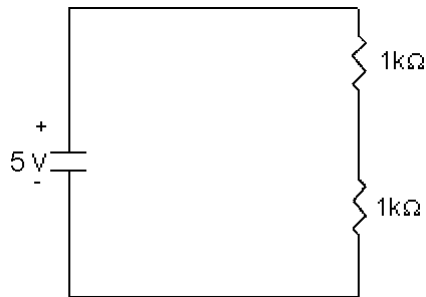

Figure 3. Series resistor circuit.
7. Assemble the circuit shown in Figure 3. **Q6:** What values do you expect for voltages across each of the two resistors and across the series combination of the two resistors? Measure these three values using the DMM. Do your results make sense? Now disconnect the two resistors from each other, leaving everything else connected (an open circuit). Measure the voltage across each resistor. Measure the voltage across the disconnection. Record all results and explain them. If you do not understand the measurements you are taking be sure to ask!